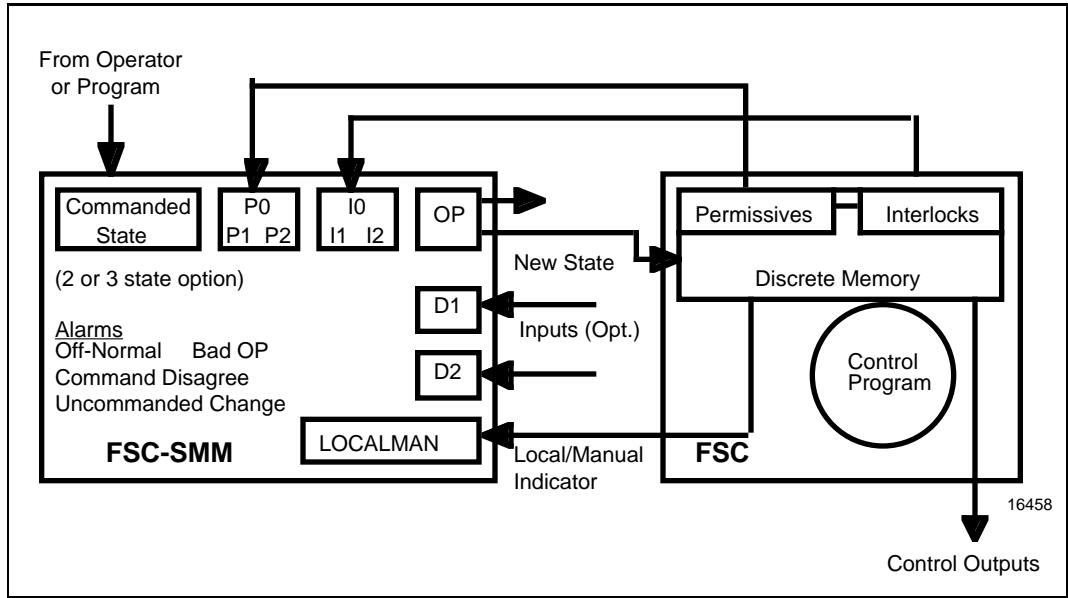

Figure 4 — Example Showing Digital Composite Point Data Flow
primarily faceplates to display motor control functions implemented in the Functional Logic Diagrams. Figure 4 shows a diagram representing the major parameters associated with this type of point. It shows how the commanded state is passed from the FSC-SMM to the FSC controller, where it can be processed by the control program. Permissives and interlocks, if built into the FSC logic, are communicated to the FSC-SMM where they can influence the resulting output parameter (OP). Process feedback can be provided through one or two optional inputs (D1, D2). A local manual switch status can also be monitored to show if outputs are being controlled by the FSC controller or by an external device.